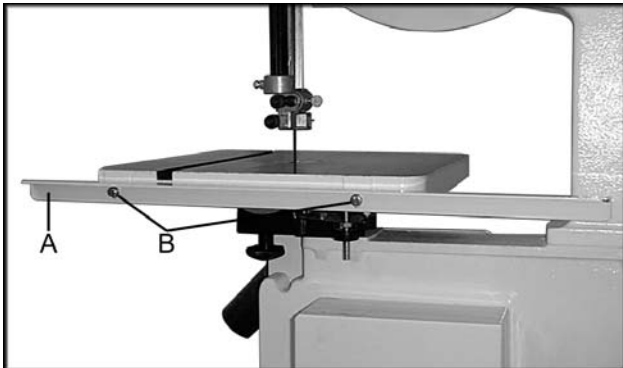

Fig. 1
2. Mount the rear rail (A, Fig. 1) to the bandsaw table using two M6x20 hex cap screws, two lock washers and two flat washers (B, Fig. 1). Do not tighten.